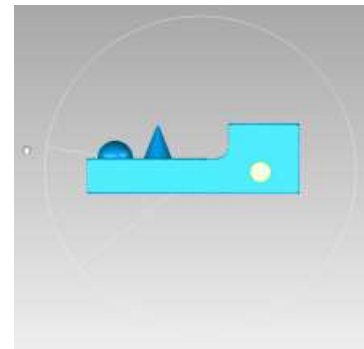

Figure 56
- **Rotate** to the view to the position shown in **Figure 56**.